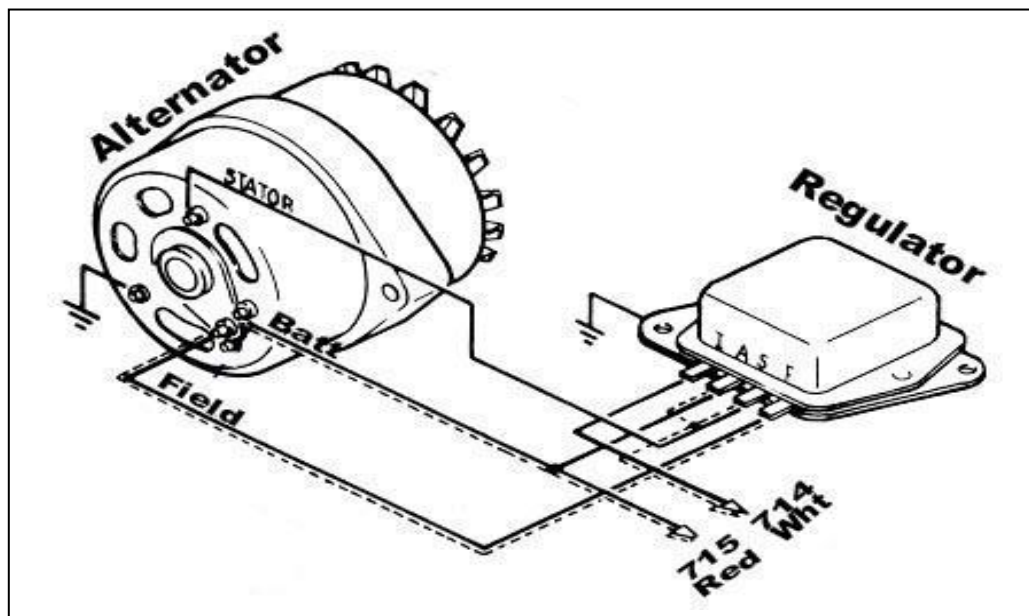

Figure 8.5 Motorcraft Alternator (2 configurations)
8.2.1 Motorcraft Alternator (2 configurations). See Figure 8.5.
Note: Your Alternator may not appear exactly as represented in Figure 8.5. The circuits are wired the same way, though.
- A.** Connect ENGINE SECTION wire #715 (red) to the Alternator Output lug (Bat). Connect ENGINE SECTION wire #714 (wht) to the Voltage Regulator (I) terminal.
- C.** Connect a 14-gauge wire from the Voltage Regulator S terminal to the S terminal of Alternator. Connect a 14-gauge wire from the Voltage Regulator F terminal to the Alternator Field (F) terminal.
- E. An alternate (and less-used) method is to omit the Alternator Stator (S) wire, install a 14-gauge jumper across Voltage Regulator terminals A and S, and connect wire #714 to either the A or S terminal on the Voltage Regulator. The FIELD wire and wire #715 are connected as above. Do **NOT** install a jumper as in **Section 8.2.1, Step B**. The Voltage Regulator Ignition (I) terminal is not connected. Install ground wires as in **Section 8.2.1, Step D**. This alternate configuration is illustrated in dashed lines in **Figure 8.5**.